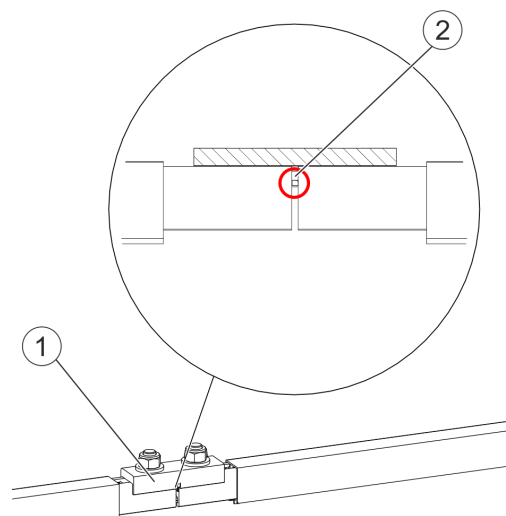

Fig. 78: Connector with notch (Pos. 2) – slid onto both conductor bar ends
- Slide the conductor bar of the second end of the rail up to the notch (Pos. 2) of the connector (see Fig. 78).